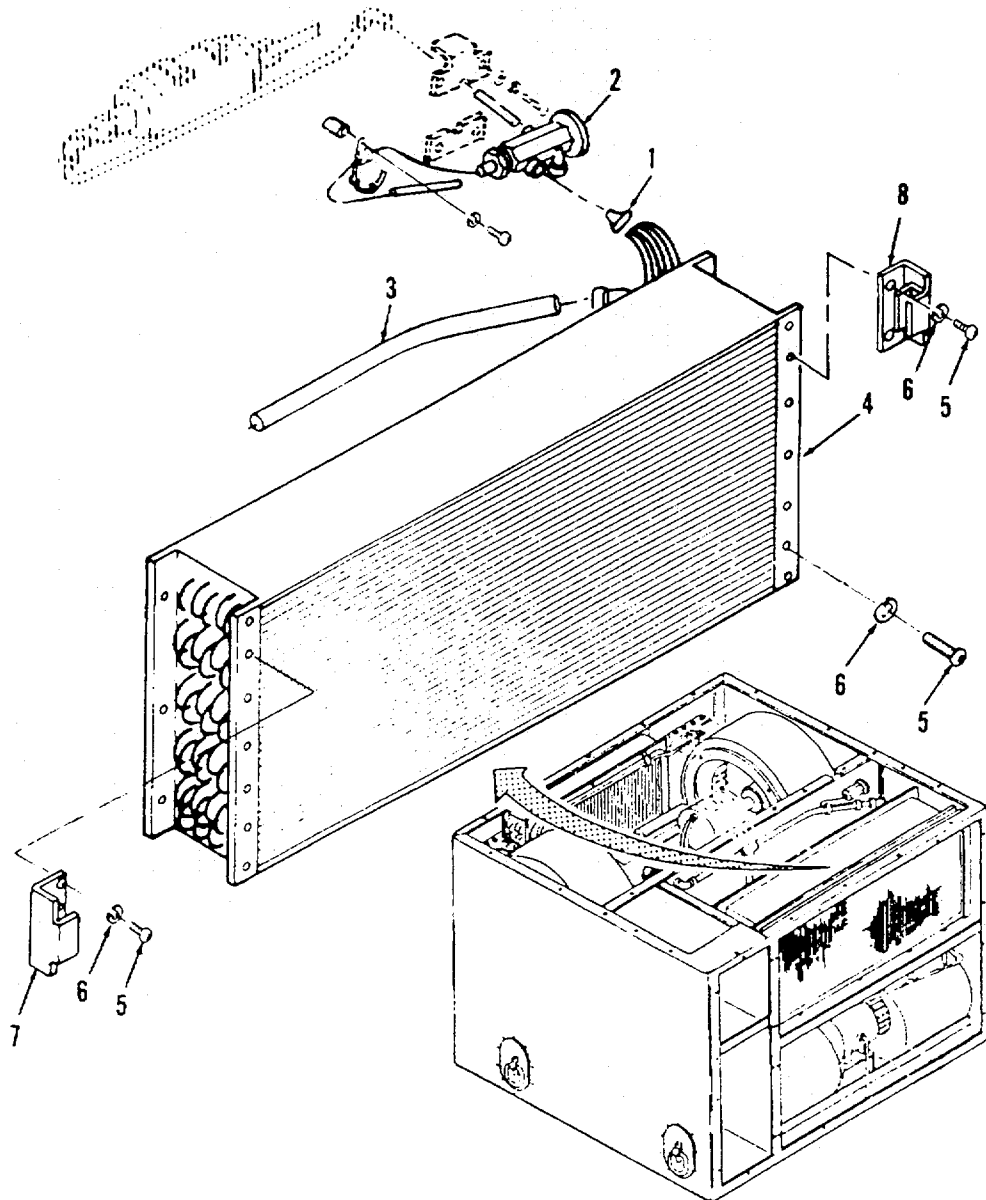

Figure 4-24. Evaporator Coil.
**a. Removal.** (Refer to Figure 4-24).
- (1) Debraze the distributor (1) from expansion valve (2) (see para. 4-7).
- (2) Debraze suction return line (3) from evaporator coil (4) (see para. 4-7).
- (3) Remove six screws (5), six lock washers (6), left mist eliminator bracket (7), and right mist eliminator bracket (8).
- (4) Remove the evaporator coil (4).